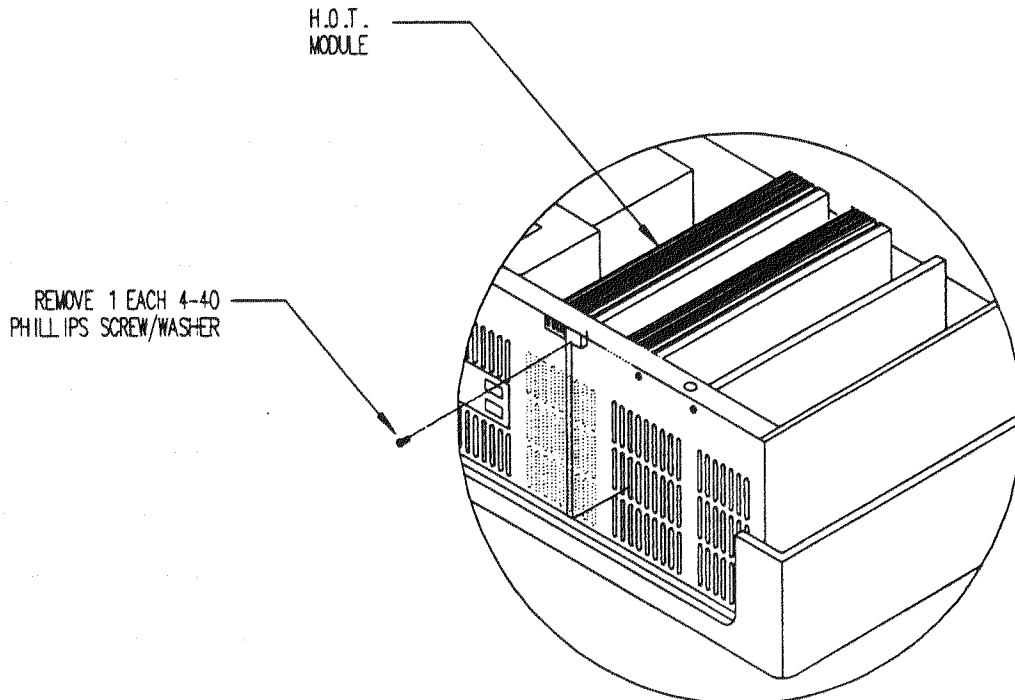

FIGURE 10-14. H.O.T. MODULE REPLACEMENT.
- STEP 3. Remove the single 4-40 phillips screw and lock washer securing the H.O.T. Module to the rear panel. See Figure 10-14 below.